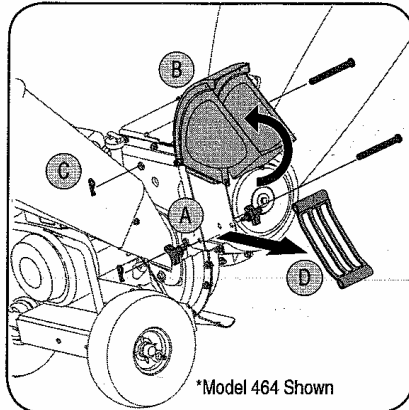

Figure 5-2
- d) Remove the flail screen from inside the housing and clean the screen by scraping or washing with water. See Figure 5-2.